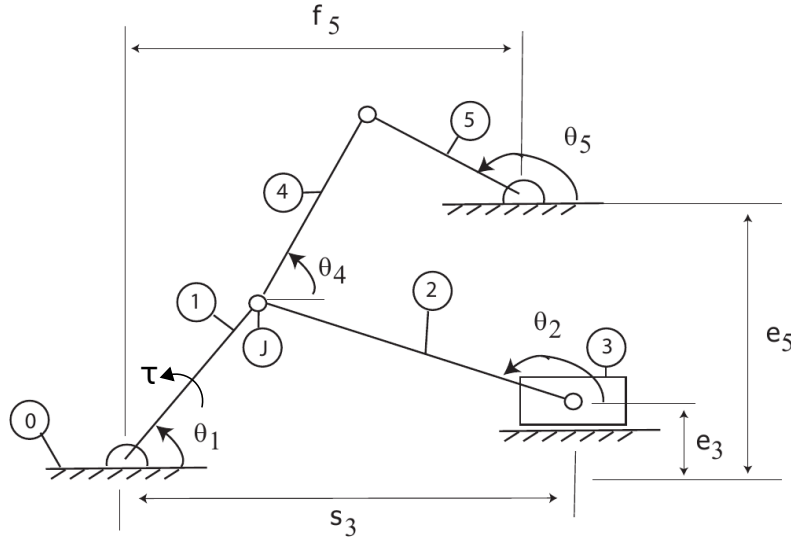

Figure 1: Planar Mechanism
2. [25 points] For the planar mechanism shown in Figure 1, draw the free body diagram for each link. Write down equations of motion for each link. Identify number of equations and all the unknowns. Put equations in a matrix form.